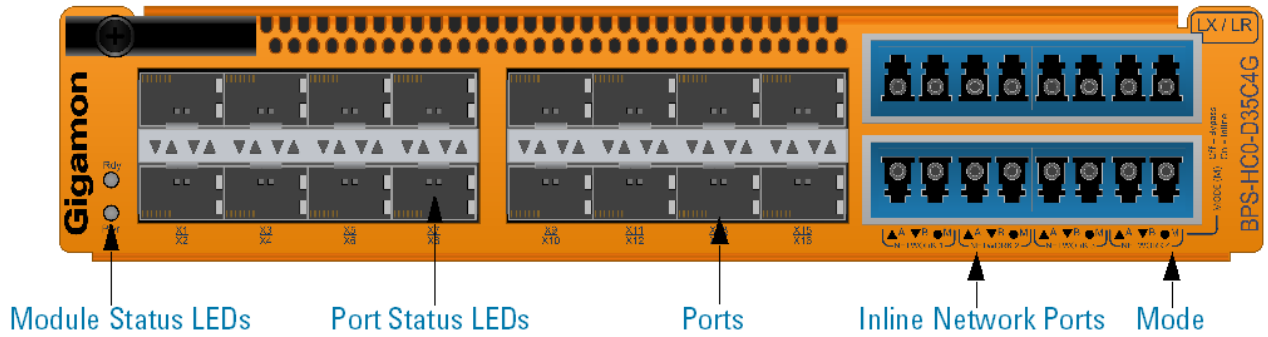

Figure 15: Bypass Combo Module BPS-HC0-D35C4G
- Bypass Combo Module with four LX/LR (singlemode) inline network port pairs and sixteen regular SFP+ port cages (BPS-HC0-D35C4G) (Figure 15: Bypass Combo Module BPS-HC0-D35C4G)